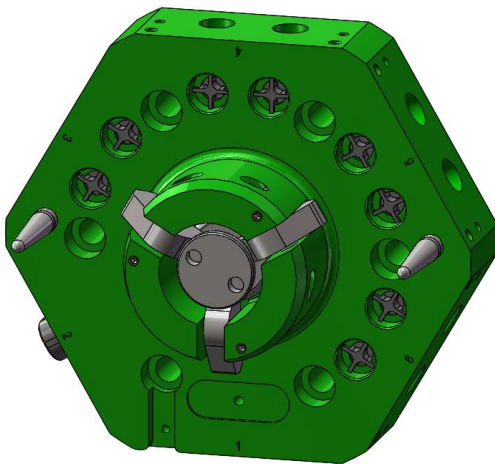

Figure 6.1-1. Robot Side Coupled (Cams Extended)
2. Turn on supply air to the control valve and verify that the cams move to the extended position (Figure 6.1-1). If using a single solenoid, spring return, 4-way valve, this will verify that it is plumbed correctly.